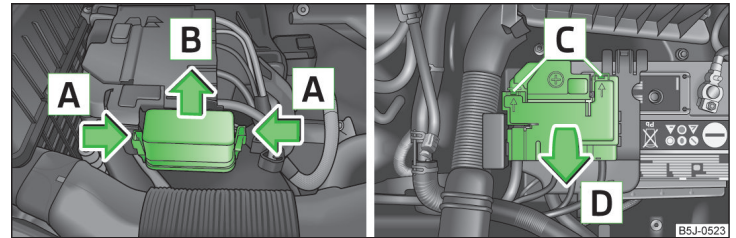

Fig. 159 Vehicle battery: Distribution board cover.
- Press the securing clips on the fuse box cover together at the same time in the direction of arrow **A** » Fig. 159 and remove the cover in the direction of arrow **B**.